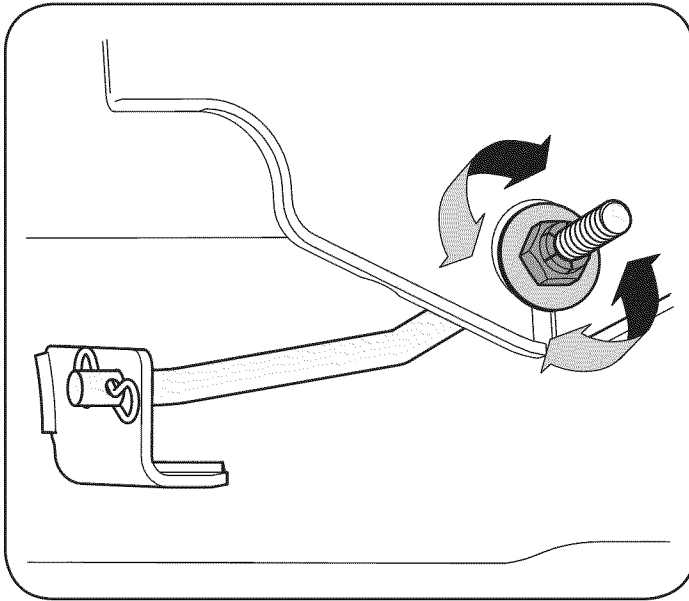

Figure 18
3. Locate the flange lock nut on the front side of the stabilizer bracket. See Figure 18.